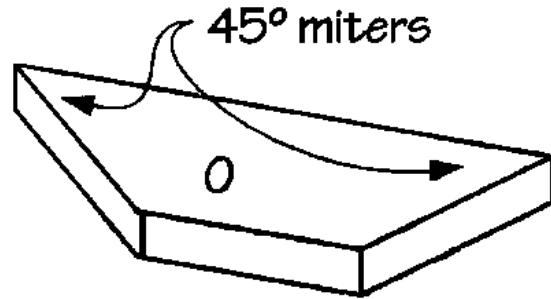

Figure 10
6. Cut four base supports (O) from 2 x 4 pine, each measuring 12 inches long.
7. Miter the ends of each base support (O) across the width at opposing 45-degree angles, as shown in *Figure 10*.
6. Cut four base supports (DD) from 2 x 4 pine, each measuring 7-1/2 inches long.
7. Miter the ends of each base support (DD) across the width at opposing 45-degree angles, as shown in *Figure 10*.